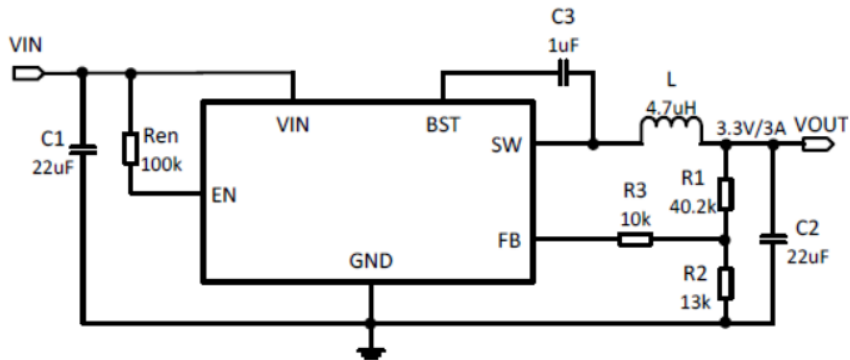

Figure 1.
2. The resistance R3 in Figure 1 makes the loop more stable. If it isn't used, the resistance R1 & R2 should be adjusted(See Figure2.). The value of R1 is recommended to be about 300kΩ.